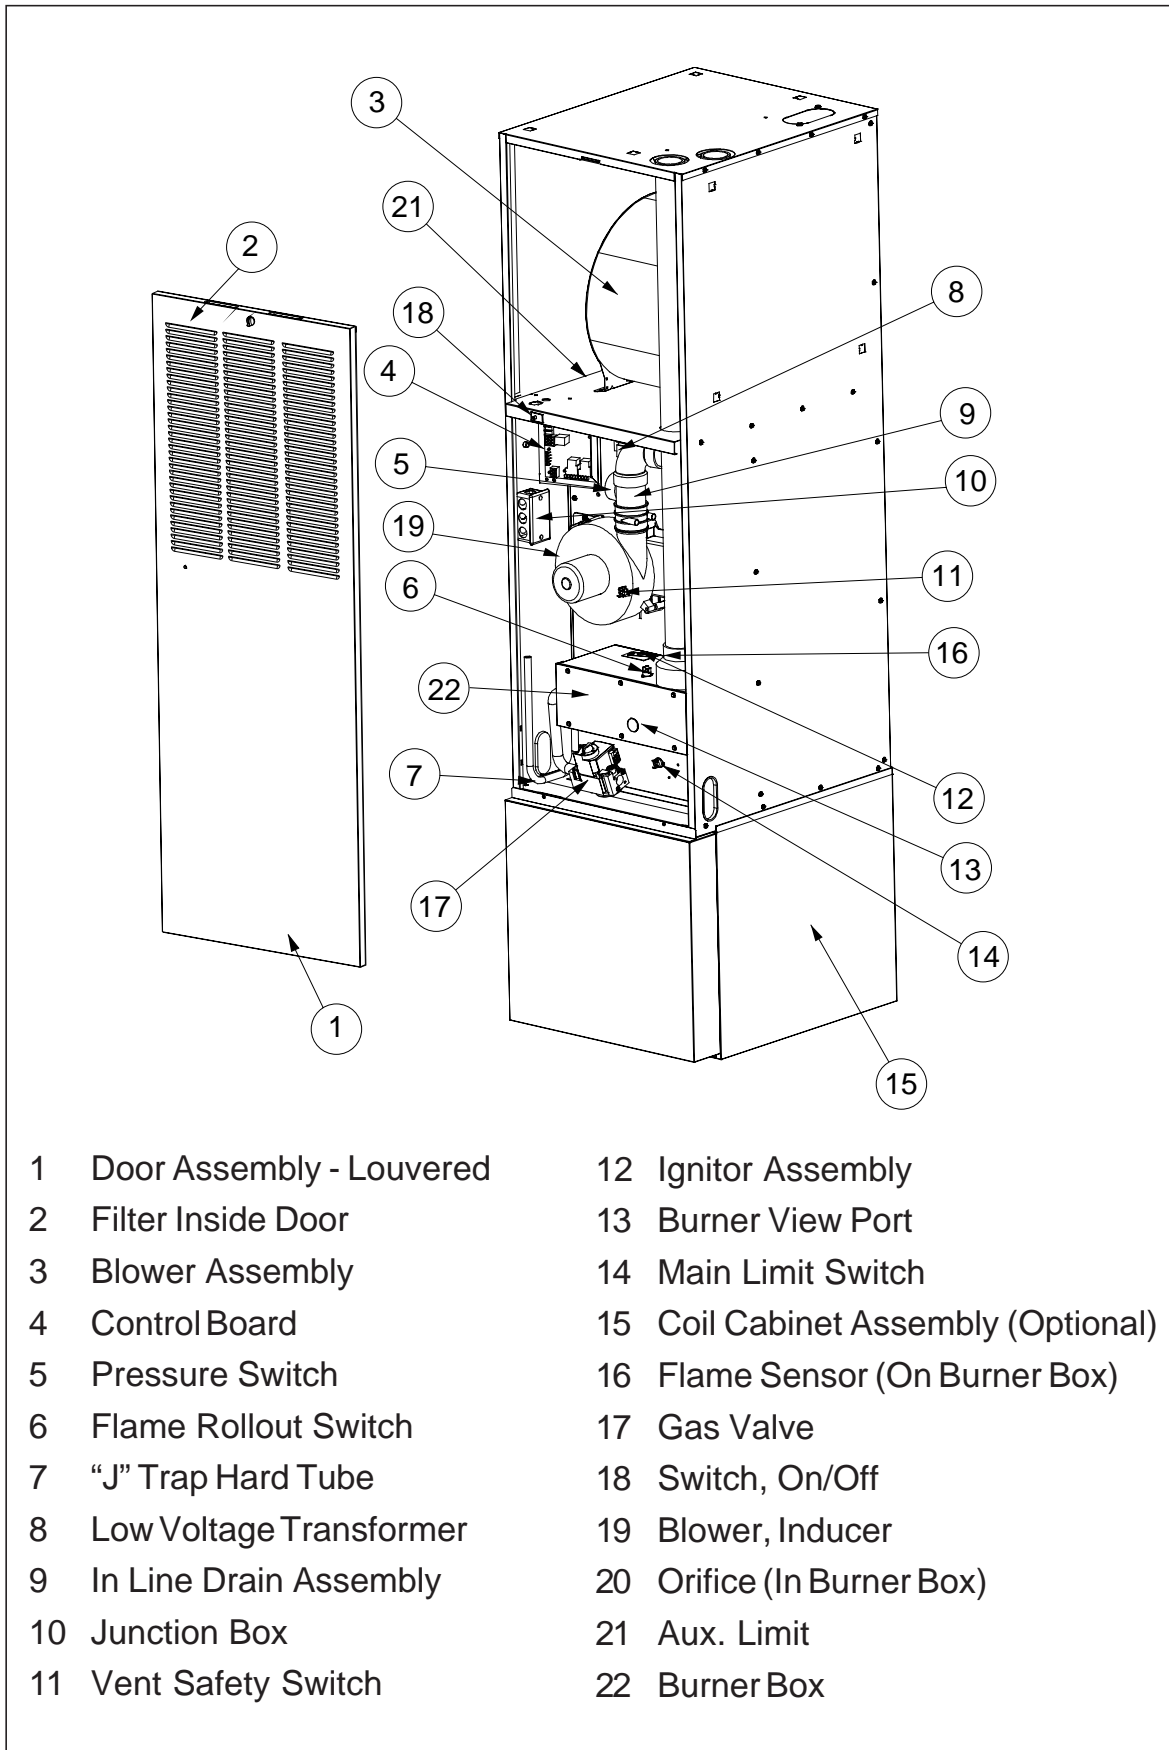

Figure 29. Location of Major Components
To verify operation of the burners, remove front door and ensure that the door switch is in the “on” position (see Figure 29). Set the thermostat above room temperature and observe the ignition sequence. The flame can be observed through the small clear window on the burner box. The burner flame should carry over between all burners. The flames should be blue, without yellow tips. Flames should extend from each burner without lifting, curling, or floating. After verifying ignition, set the thermostat below room temperature and verify that the burner flame extinguishes completely. Replace the front door.
Figure 29 shows the location of each of the functional components described below. If any component of the furnace must be replaced, use only factory authorized replacement parts. Contact your distributor for the approved replacement parts.
Deck Limit Switch (Auxiliary Limit) – The deck limit protects the furnace filter temperature from overheating when the motor has malfunctioned. If the deck switch opens, the power for the furnace will shut down (see Figure 29).
If the furnace locks out after 5 attempts for ignition, it will try again every hour if a call for heat remains. If the inducer and circulating air blowers are operating, and items 1 through 8 have been checked, press the red reset button on the vent safety switch. (See Figure 29.) If the furnace operates after depressing the reset button, contact a qualified service technician to identify and repair the problem.